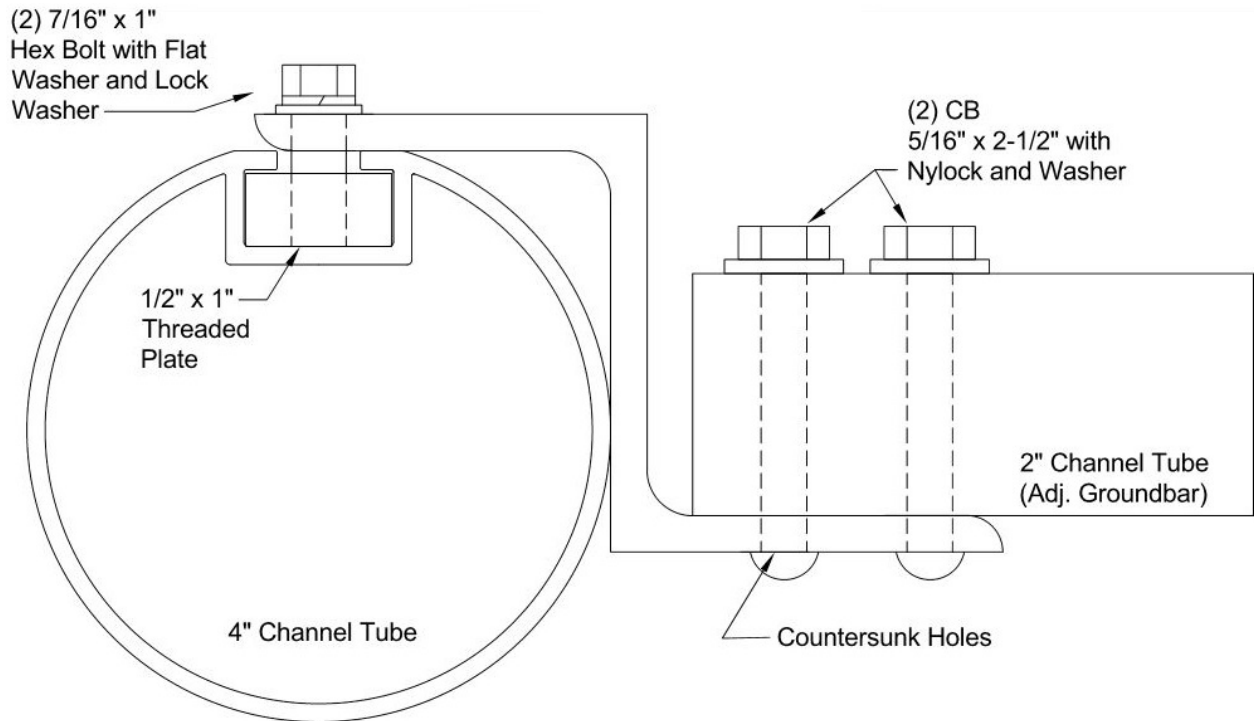

Figure 3. Groundbar Bracket mounting.
10. With Channel Facing Upward, mount Groundbar onto "Z" bracket at either side using (2) 2-1/2" Carriage Bolts with a Flat Washer and NyLock nut. (See Figure 3)